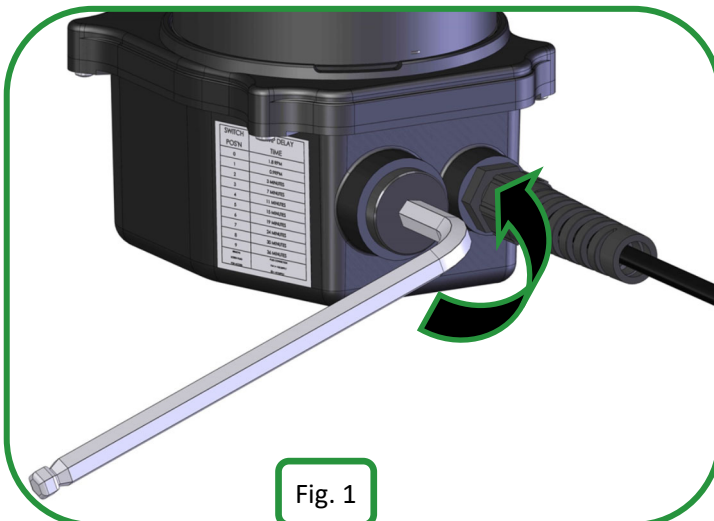

Fig. 1
- 2) Remove blanking plug from motor housing using an 8mm (or 5/16") Hex Key (see Fig. 1 and 2). Make sure to retain O-ring on the blanking blank.